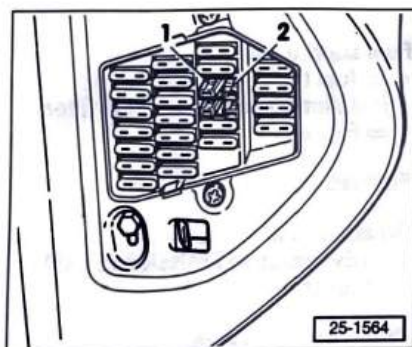

Fig. 1 Connecting VAG 1348/3A remote control
- ♦ Connect remote control ⇒ Fig. 1.